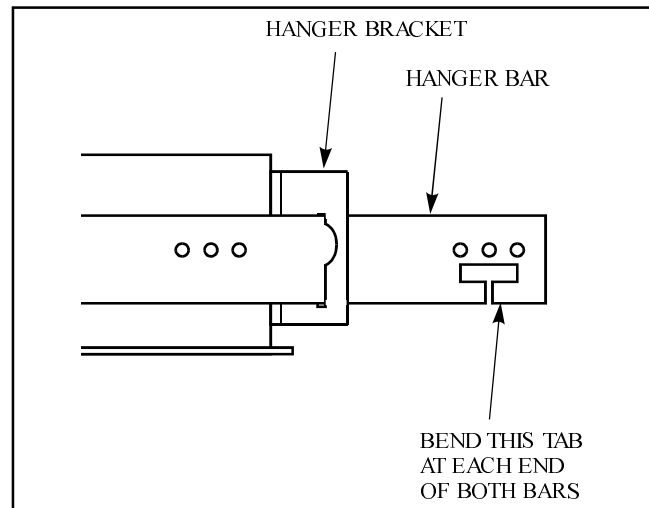

Figure 2
7. Refer to Figure 2 to orient the hanger bars properly, and slide them through the brackets.